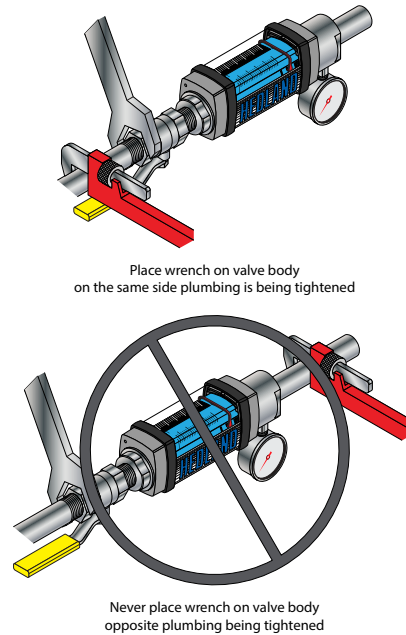

Figure 5: Installing test kit
2. Install the test kit at any location in the pneumatic circuit that is suitable for viewing. To connect the test kit into the piping system, place an open-ended wrench onto the test kit extended cap on the inlet side or on the test kit wrench flat on the outlet side adjacent to the pipe connection being installed. Do not wrench on the opposite end of the test kit or leakage may result. See *Figure 5*.